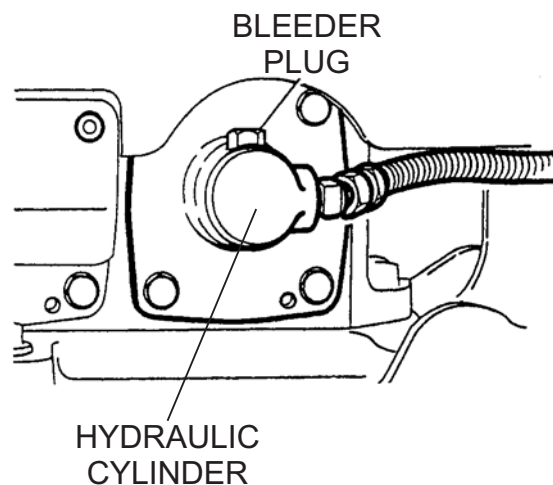

Figure 28. Bleeder Plug
3. Loosen bleeder plug located at top of hydraulic cylinder on side of vibrator (Figure 28). Air remaining in the circuit will be forced out of the bleeder plug. Once all air has been purged from the hydraulic system, tighten bleeder plug securely.